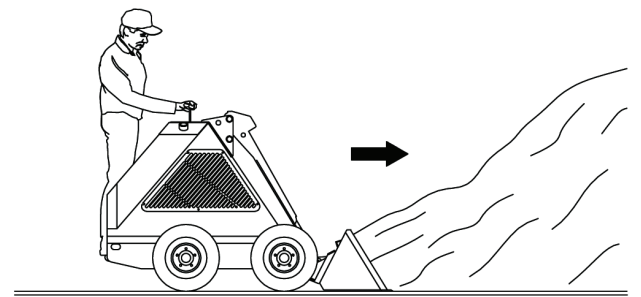

Figure 12
1. Approach the pile with the lift arms fully lowered and bucket cutting edge just skimming the top of the ground as in Figure 12.